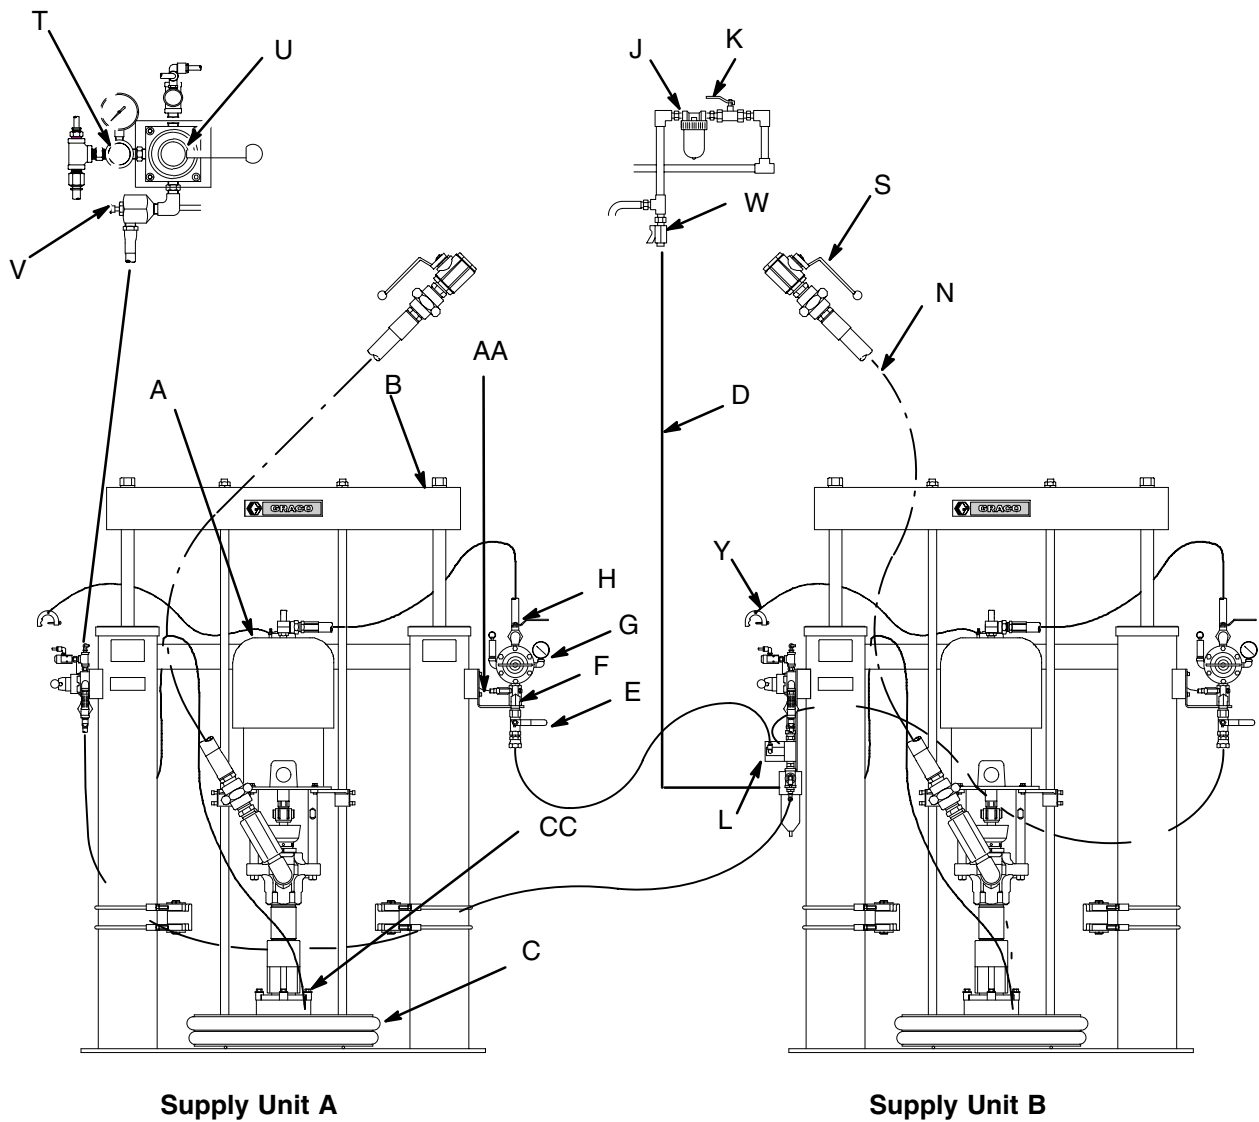
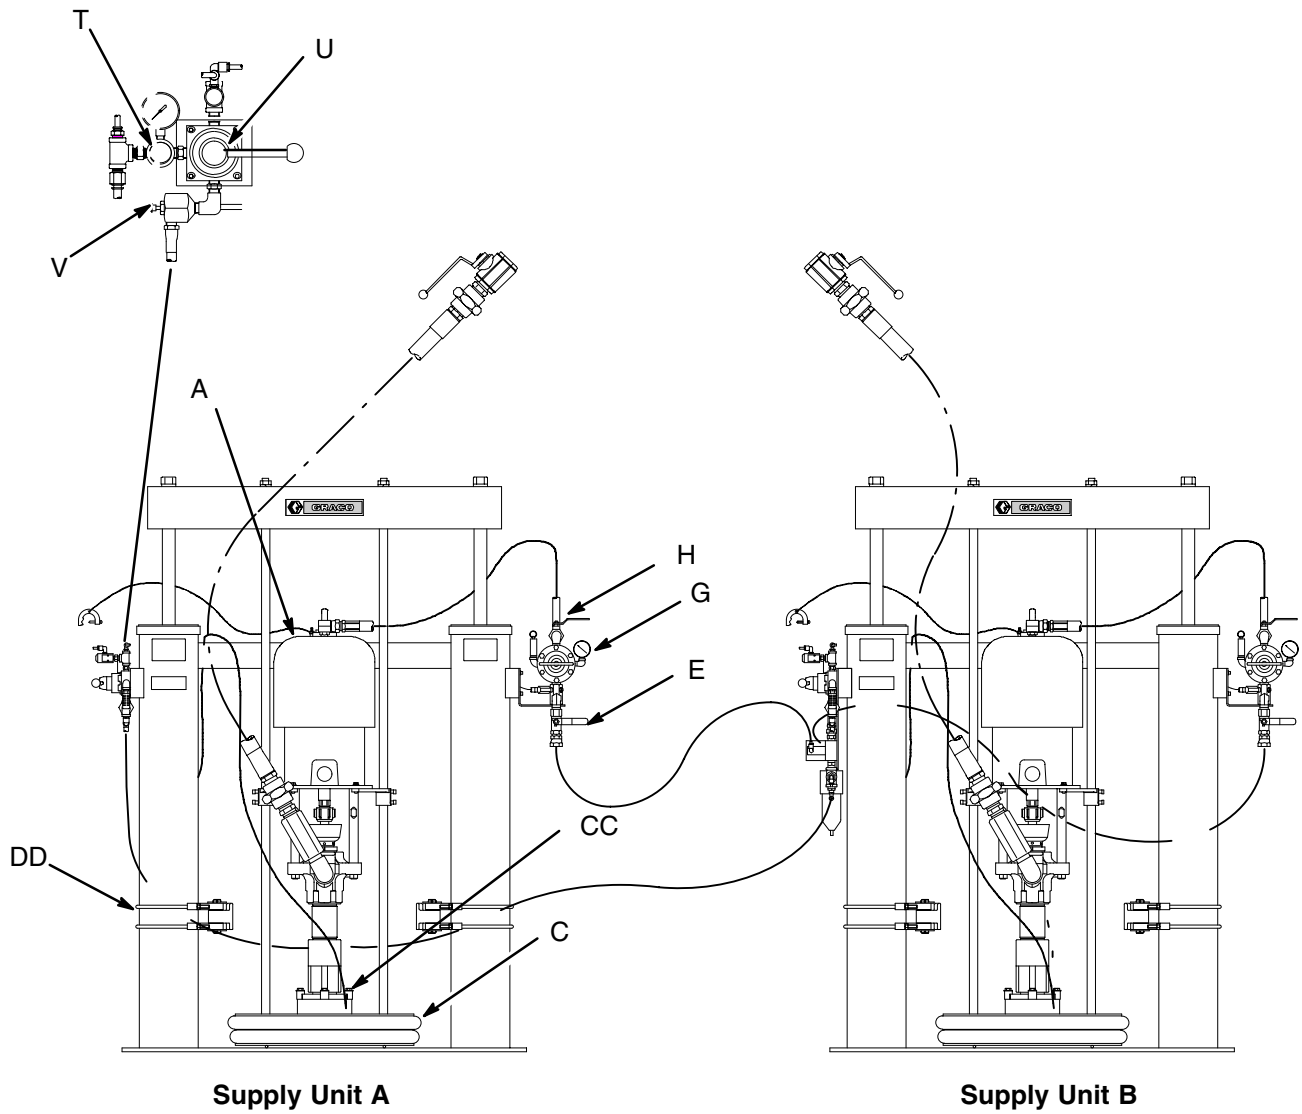

Fig. 1
Fig. 6
Systems 970204 and 970205 include dual 55 gallon supply units with pneumatic crossover (918393) or electrical crossover (C59519) for continuous material supply. System 970206 is a single 55 gallon supply unit with a low-level shutoff (918478). See Fig. 1.
Be sure all air hoses (D) and fluid hoses (N) are properly sized and pressure-rated for your system. Use only electrically conductive hoses. See Fig. 1.
2. Close dispenser ball valves (S). Unhook ball valves from system. See Fig. 1.
3. Close pump air bleed valve (H, required in your system). See Fig. 1 or Fig. 6.
4. Shut off main air bleed valve (E, required in your system). Set ram director valve (U) to DOWN. Ram will slowly drop.
2. Close all air regulators and air valves on supply units being serviced. See Fig. 6.
3. Open main air bleed valve (E) and set ram air regulator (T) to 2.8 bar, 0.26 MPa (40 psi). Move director valve (U) handle so arrow points to UP, and let ram rise to full height.
4. Set full drum of fluid on ram base, slide drum back against tube stop, and center under ram plate (C). Use drum clamps (DD) to center, hold, and properly align drum with ram.
1. Be sure pump air regulator (G) is closed. Set ram air regulator (T) to 3.5 bar, 0.35 MPa (50 psi). Set director valve (U) to DOWN. See Fig. 6.
3. Keep director valve (U) set to DOWN while pump is operating.
1. Stop pump. Close pump air bleed valve (H). See Fig. 6.
2. Before raising wiper plate, locate push button on air release valve (V).
3. Set director valve (U) to UP to raise wiper plate. At the same time, carefully equalize pressure in drum by operating air release valve.
1. Set director valve (U) to neutral. See Fig. 6.